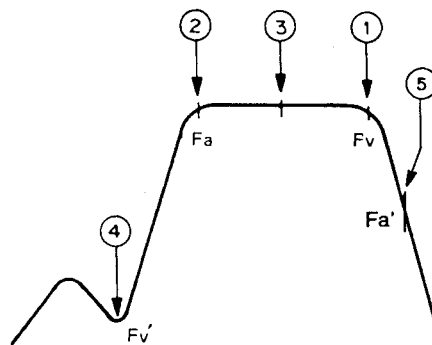

Fig. 9
2. Adjust L602, L603, L605 and L606 by the following procedure, and set the waveform at the OUTPUT terminal of the converter as shown in Fig. 9.
- a) Adjust L606 for the proper gain at ① (23 to 30dB).
- b) Adjust L605 so that ② has the same level as ①.
- c) Readjust L605 and L606 to make ③ level (from Fv to Fv-4.5MHz) to within 1dB.
- d) Adjust L603 so that ⑤ is less than -8dB.
- e) Adjust L602 so that ④ is less than -14dB.
1. Confirm that the output waveform remains the same (Fig. 9) after completing the 2nd Local OSC Adjustment. If it varies from the specifications, remove the front cover and again perform "4. Output Wave Adjustment".